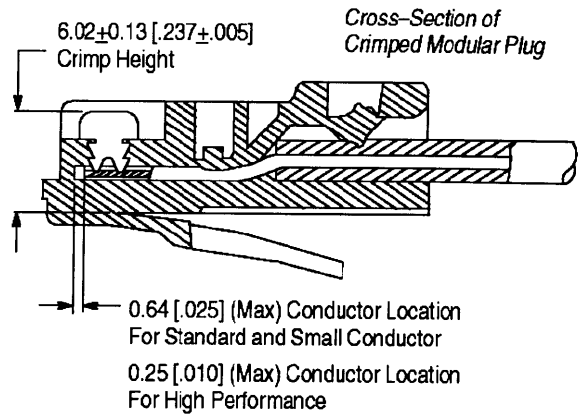

Figure 6
4. After releasing the terminated plug assembly, inspect for proper crimp height using a dial indicator or digital indicator with needle-point probes, or Crimp Height Gage 904170-1 according to 408-4389. Figure 6 shows a cross-section of a typical terminated plug—proper crimp height dimension and required location of the conductors. A visual inspection through the plastic housing of the plug should reveal whether the conductors are within acceptable range.